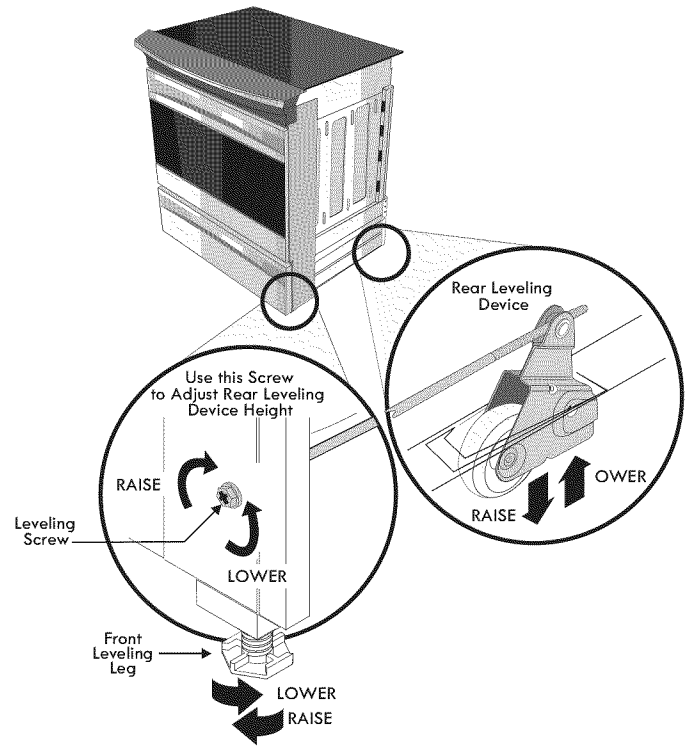

Figure 9
2. Adjust the appliance wheels and legs as follows until the underside of the cooktop surface is sitting level on the countertop (Fig. 9).